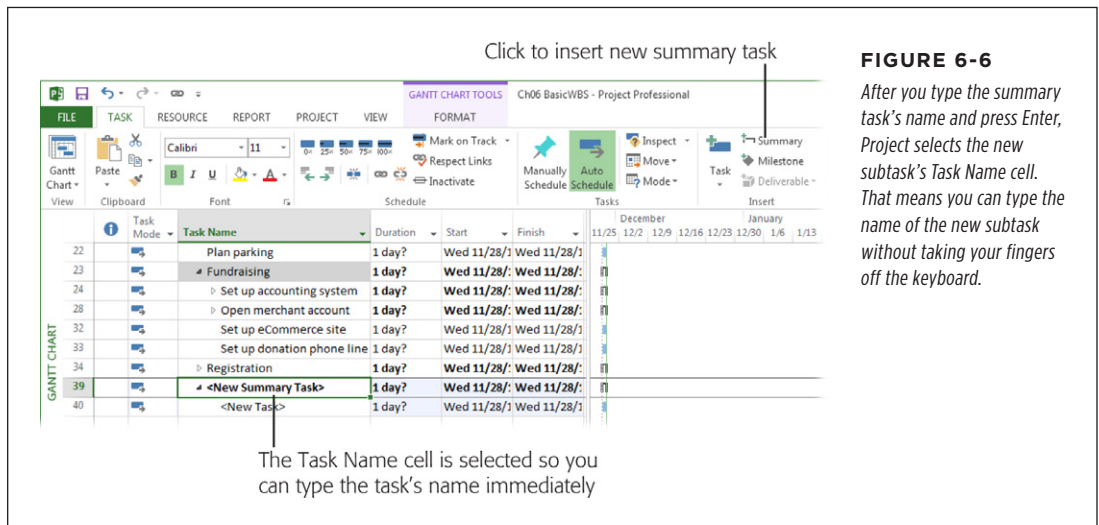

FIGURE 6-6
- Insert a new summary task with a new subtask.** This method is perfect if you want to add an entirely new batch of work, so you need to insert a new summary task and a new subtask. Click a blank Task Name cell, and then, in the Task tab's Insert section, click Summary. Project selects the Task Name cell, which now contains the text “<New Summary Task>,” as shown in Figure 6-6, so you can simply start typing to name the new summary task. Press Enter to move to the new subtask's Task Name cell. Type the name for the subtask and press Enter. Now you can move these tasks to another location (page 151), change their level in the outline (page 144), or insert additional subtasks (page 149).